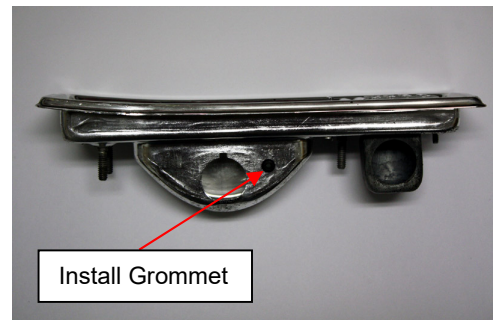

Figure 2
4. Drill a 3/16" diameter hole to the side of the bulb socket hole surface and deburr hole. (See Figure 2)